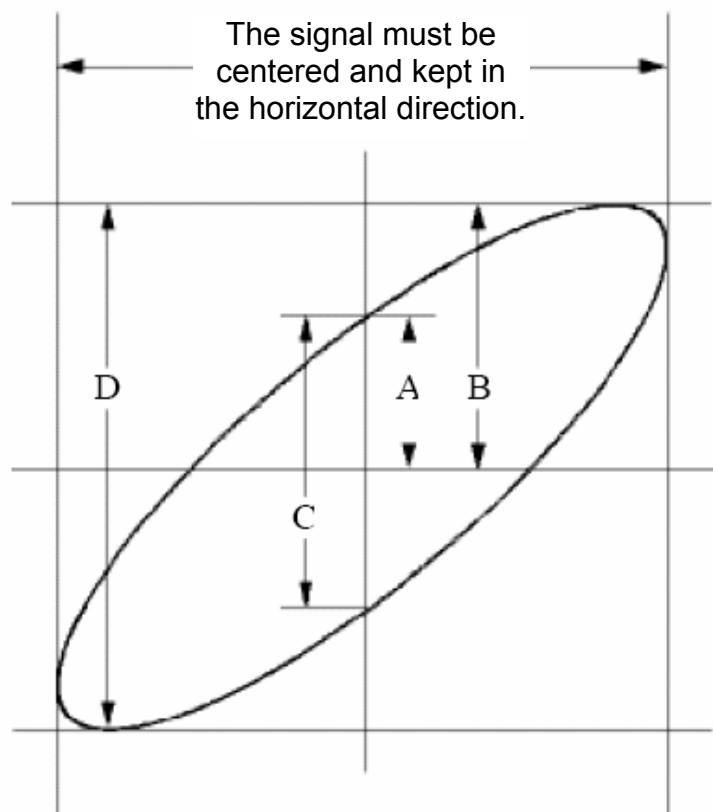

Figure 0-6 Lissajous Graph
- (1) Set the probe menu attenuation coefficient for **10X** and that of the switch in the probe for **10X** (see "*How to Set the Probe Attenuation Coefficient*").
- (2) Connect the probe of channel 1 to the input of the network and that of Channel 2 to the output of the network.
- (3) Push the CH1 to CH4 button to turn on CH1 and CH2, turn off CH3 and CH4.
- (4) Push the **Autoset** button, with the oscilloscope turning on the signals of the two channels and displaying them in the screen.
- (5) Push **CH1** button to select CH1, turn the **Vertical Scale** knob, and then push **CH2** button to select CH2, turn the **Vertical Scale** knob, making the amplitudes of two signals equal in the rough.
- (6) Push the **Display** button and recall the Display menu.
- (7) Select **XY Mode** in the bottom menu. Select **Enable** as **ON** in the right menu. The oscilloscope will display the input and terminal characteristics of the network in the Lissajous graph form.
- (8) Turn the **Vertical Scale** and **Vertical Position** knobs, optimizing the waveform.
- (9) With the elliptical oscillogram method adopted, observe and calculate the phase difference (see *Figure 0-6*).